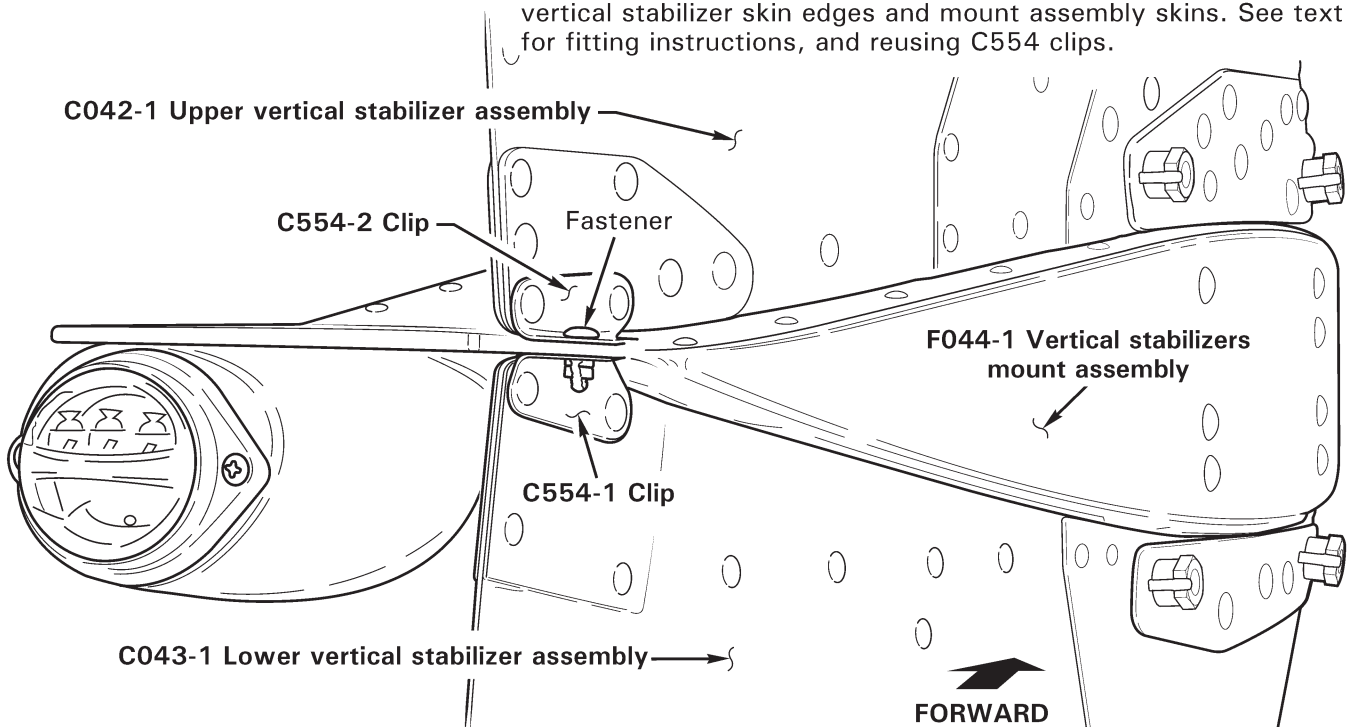

FIGURE 53-7 F004-2 EMPENNAGE ASSEMBLY – TAILCONE ASSEMBLY AFT BULKHEAD
3. Refer to Figure 53-7 or 53-7A. Supporting empennage assembly, remove hardware securing empennage to tailcone assembly aft bulkhead, and remove empennage.
1. Refer to Figure 53-7 or 53-7A. Position empennage assembly on tailcone assembly aft bulkhead.
1. Refer to Figure 53-7 or 53-7A. Remove fastener securing C554-1 & -2 clips to F044-1 vertical stabilizers mount assembly (or C044-1 or -2 horizontal stabilizer, if installed).
1. Refer to Figure 53-7 or 53-7A. Position C042-1 upper vertical stabilizer assembly on empennage assembly. Verify 0.030–0.120 inch gap between vertical stabilizer skin edges and F044-1 vertical stabilizers mount assembly (or C044-1 or -2 horizontal stabilizer, if installed) upper skin. File vertical stabilizer skin edge(s) as required. Conversion coat & prime bare aluminum edges per §§ 20-51 & 20-60.
3. Refer to Figure 53-7 or 53-7A. Remove fastener securing C554-1 & -2 clips to F044-1 vertical stabilizers mount assembly (or C044-1 or -2 horizontal stabilizer, if installed).
1. Refer to Figure 53-7 or 53-7A. Position C043-1 lower vertical stabilizer assembly on empennage assembly. Verify 0.030–0.120 inch gap between vertical stabilizer skin edges and F044-1 vertical stabilizers mount assembly (or C044-1 or -2 horizontal stabilizer, if installed) lower skin. File vertical stabilizer skin edge(s) as required. Conversion coat & prime bare aluminum edges per §§ 20-51 & 20-60.